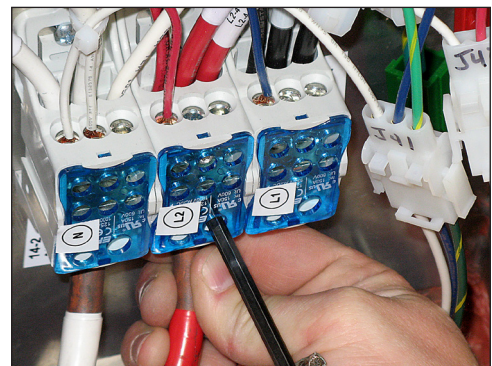

Figure 30: Connect Power Lines
8. Connect power line 2 (L2) to Line 2 of the tap and use a $\frac{3}{16}$ " Hex head wrench to tighten to 57 in-lbs, as shown in **Figure 30**.